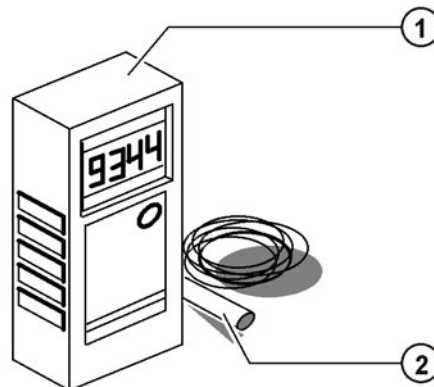

Fig. 10-1: Belt tension measuring device
2. Switch on the belt tension measuring device (>>> Fig. 10-1).